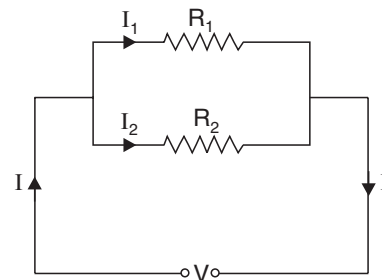

Fig. 12
1.15.1. Division of current in parallel circuits- Current divider rule. Fig. 12 shows two resistances R_1 and R_2 connected in parallel across a voltage V . According to Ohm's law, the current in each branch is given as :